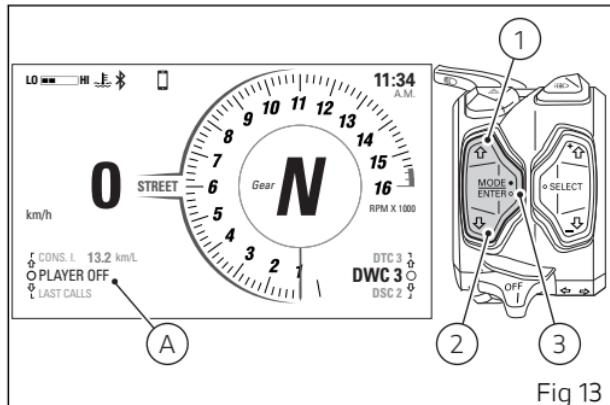

Fig 13
If the music player control is set to "OFF" (Fig 13), press the ENTER button (3) to activate it.
The function is then shown as "PLAYER OFF" (Fig 13).